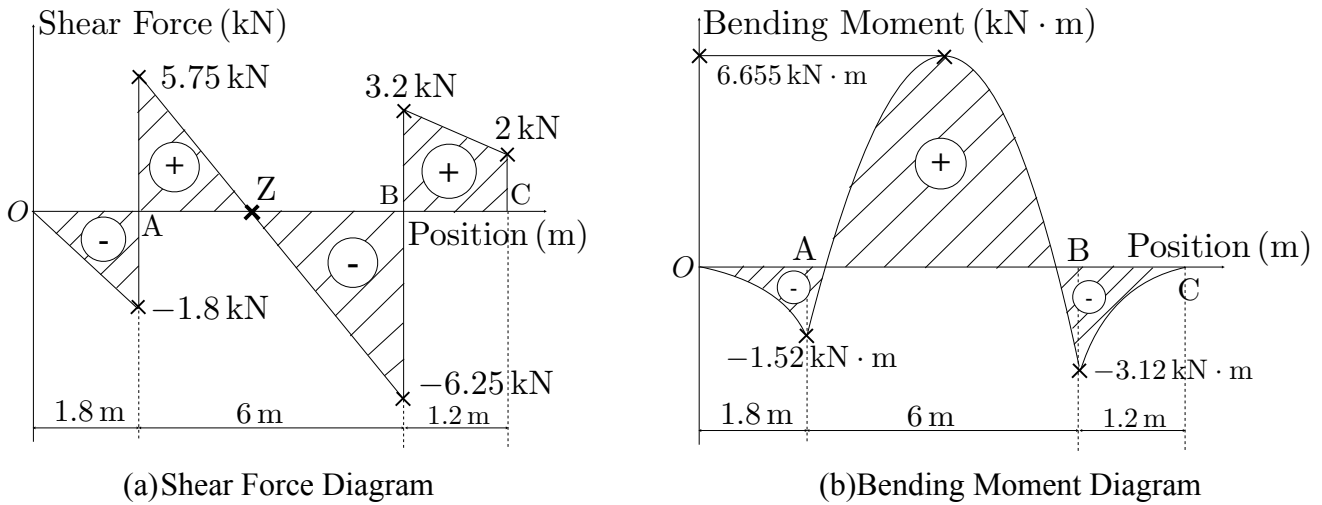

Figure 4: Shear Force and Bending Moment Diagrams for a Beam
4. (DO NOT COPY THE SFD AND BMD INTO YOUR ANSWER SCRIPT!) Figure 4 shows the shear force diagram (SFD) and the bending moment diagram (BMD) for a beam of 60-mm diameter subjected to external loads. Answer the following questions using the SFD and BMD.